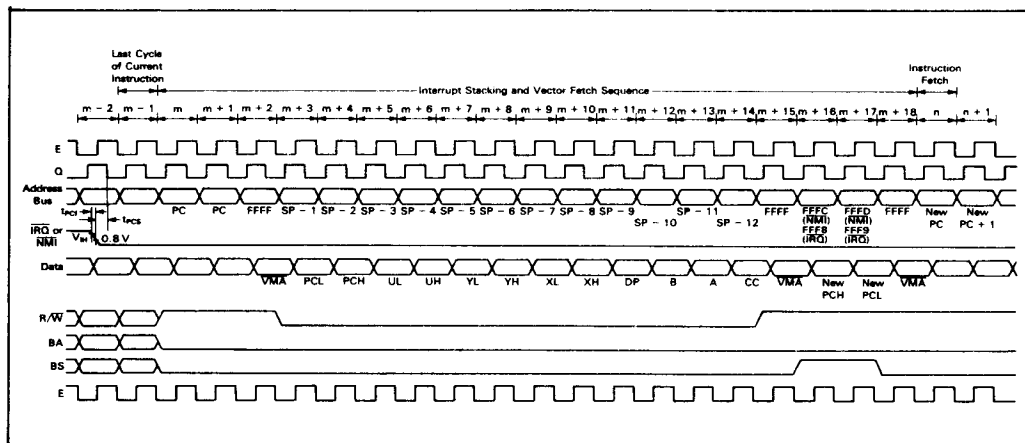

Figure 6. IRQ and NMI Interrupt Timing
A negative edge on $\overline{\text{NMI}}$ requests that a non-maskable interrupt sequence be generated. A non-maskable interrupt cannot be inhibited by the program, and also has a higher priority than $\overline{\text{FIRQ}}$, $\overline{\text{IRQ}}$ or software interrupts. During recognition of an $\overline{\text{NMI}}$, the entire machine state is saved on the hardware stack. After reset, an $\overline{\text{NMI}}$ will not be recognized until the first program load of the hardware stack pointer (S). The pulse width of $\overline{\text{NMI}}$ low must be at least one E cycle. If the $\overline{\text{NMI}}$ input does not meet the minimum set up with respect to Q, the interrupt will not be recognized until the next cycle. See figure 6.
A low level input on $\overline{\text{IRQ}}$ will initiate an interrupt request sequence provided the mask bit (I) in the CC is clear. Since $\overline{\text{IRQ}}$ stacks the entire machine state it provides a slower response to interrupts than $\overline{\text{FIRQ}}$. $\overline{\text{IRQ}}$ also has a lower priority than $\overline{\text{FIRQ}}$. Again, the interrupt service routine should clear the source of the interrupt before doing an RTI. See figure 6.